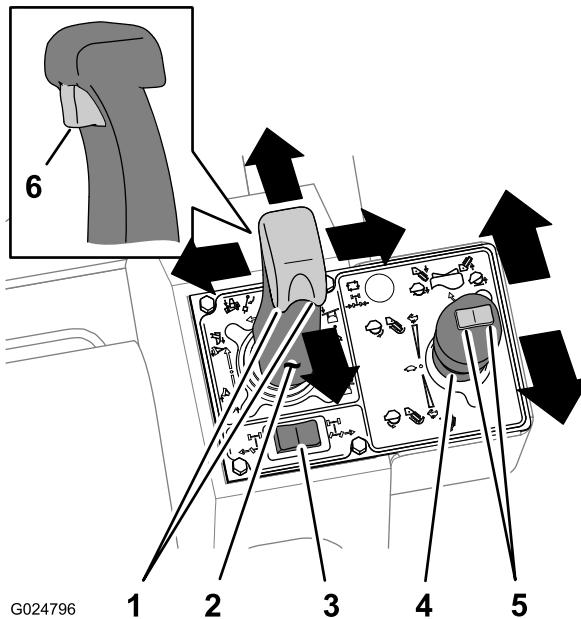

Figure 15
- Move the joystick to the left to tilt the backfill blade to the left, or move the joystick to the right to tilt the backfill blade to the right (Figure 15).
- Twist the thumb control left to swing the backfill blade left, or twist the thumb control right to swing the backfill blade right (Figure 15).
- Twist the thumb control left to steer the vibratory plow left, or twist the thumb control right to steer the vibratory plow right (Figure 15).
- Pull the trigger on the joystick to float the backfill blade up and down (Figure 15).
- Push the joystick forward to lower the backfill blade or vibratory plow or pull the joystick rearward to raise the backfill blade or vibratory plow (Figure 15).
- Move the joystick rearward to start the vibration of the plow blade (Figure 15).
- Move the joystick further rearward to increase the vibration (Figure 15).
- Move the joystick toward the Neutral position to decrease and stop the vibration (Figure 15).
- Move the joystick forward to start the digging chain in the forward direction (Figure 15).
- Move the joystick further forward to increase the chain speed (Figure 15).
- Move the joystick to the Neutral position to stop the trencher chain (Figure 15).
- Press the switch on the left to lower the attachment boom (Figure 15).
- Press the switch on the right to raise the attachment boom (Figure 15).